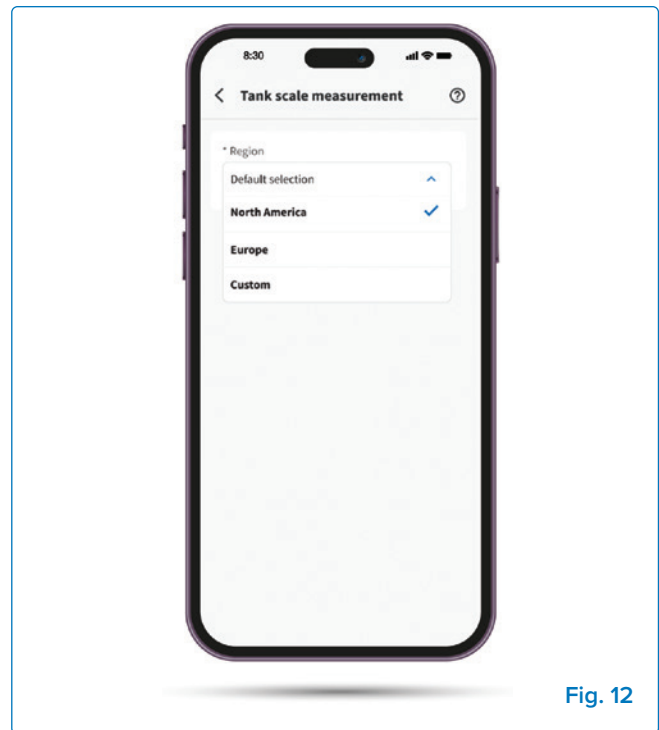

Fig. 12
- Open the Napoleon Home App and go to the Tank Scale section (**Fig. 12**).